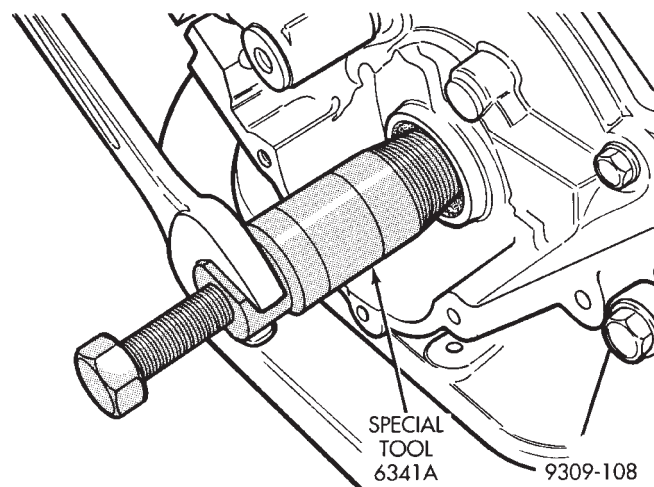

Fig. 79 Crankshaft Oil Seal with Special Tool 6341A—Removal
(4) Remove crankshaft seal using Special Tool 6341A (Fig. 79).